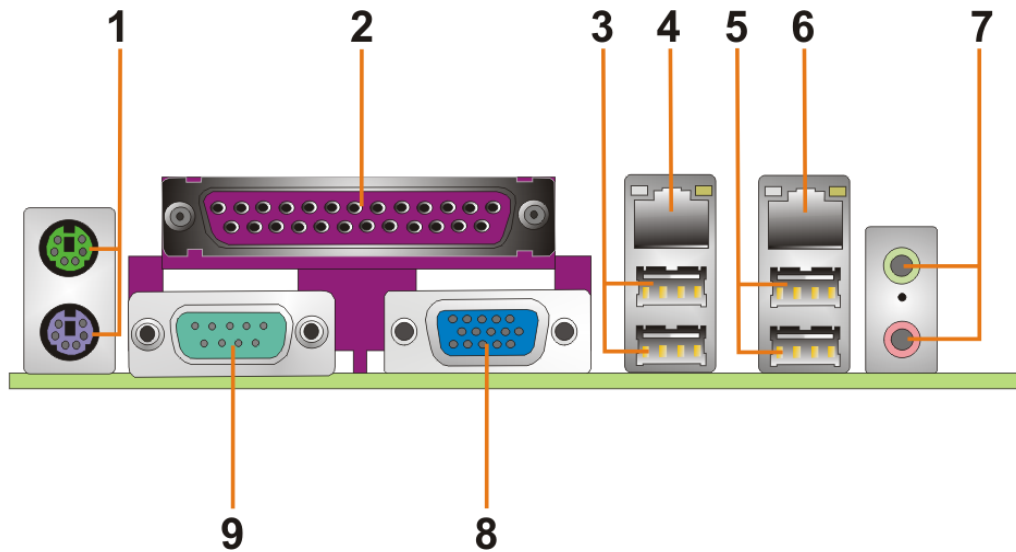

Figure 3-9: KINO-6614 On-board External Interface Connectors
Figure 3-9 shows the KINO-6614 motherboard external interface connectors. These external interface connectors can connect to external peripheral devices and are seen on the rear panel (**Figure 2-5**) of the ECK-3699GH embedded system. The KINO-6614 on-board external interface connectors are listed below and shown in **Figure 3-9**:
CN Location: See Figure 3-9 (labeled number 7)
CN Location:	See Figure 3-9 (labeled number 4 and 6)
CN Location: See Figure 3-9 (labeled number 3 and 5)
- CN Location:See Figure 3-9 (labeled number 1)
CN Location: See Figure 3-9 (labeled number 9)
- CN Location: See Figure 3-9 (labeled number 8)